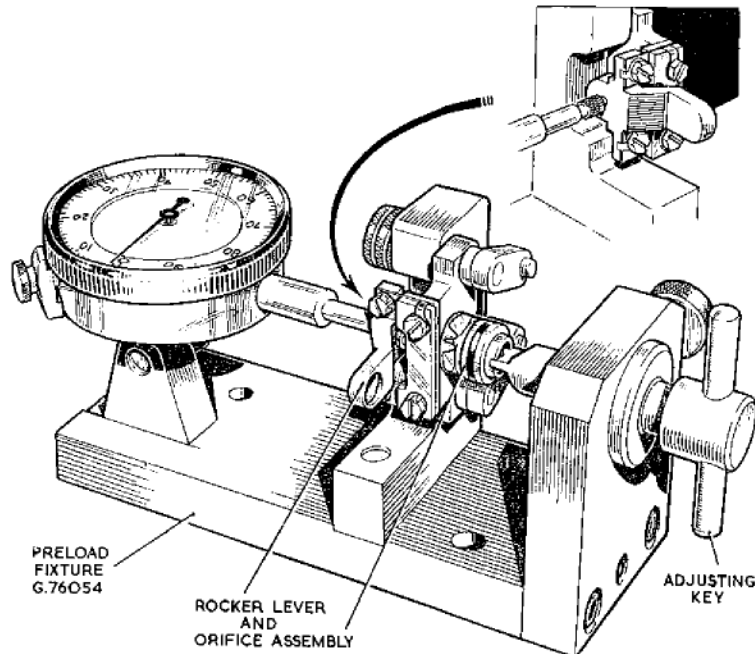

Fig. 4. Pre-loading the rocker lever
62. Locate the rocker lever assembly on the setting gauge G.76054 (*fig. 4*) and tighten the two knurled screws. Move the dial test indicator until the needle rests on the rocker lever immediately above the orifice then lock it in this position. With the lever in free suspension set the dial test indicator to zero. By means of the key provided on the fixture, screw the orifice in to make contact with the half-ball valve and then screw in further until the gauge reads 0.001 in. Tighten the locknut on the orifice body, making sure that the setting is not disturbed, lock the tab-washer and check the setting. Remove the assembly from the gauge and record the setting.